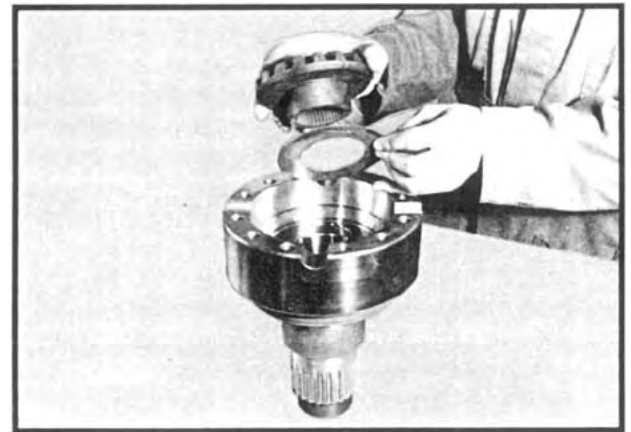

Fig 51
4. Place a thrust washer onto one of the differential side gears and insert into the front differential carrier half. See Figure 51.